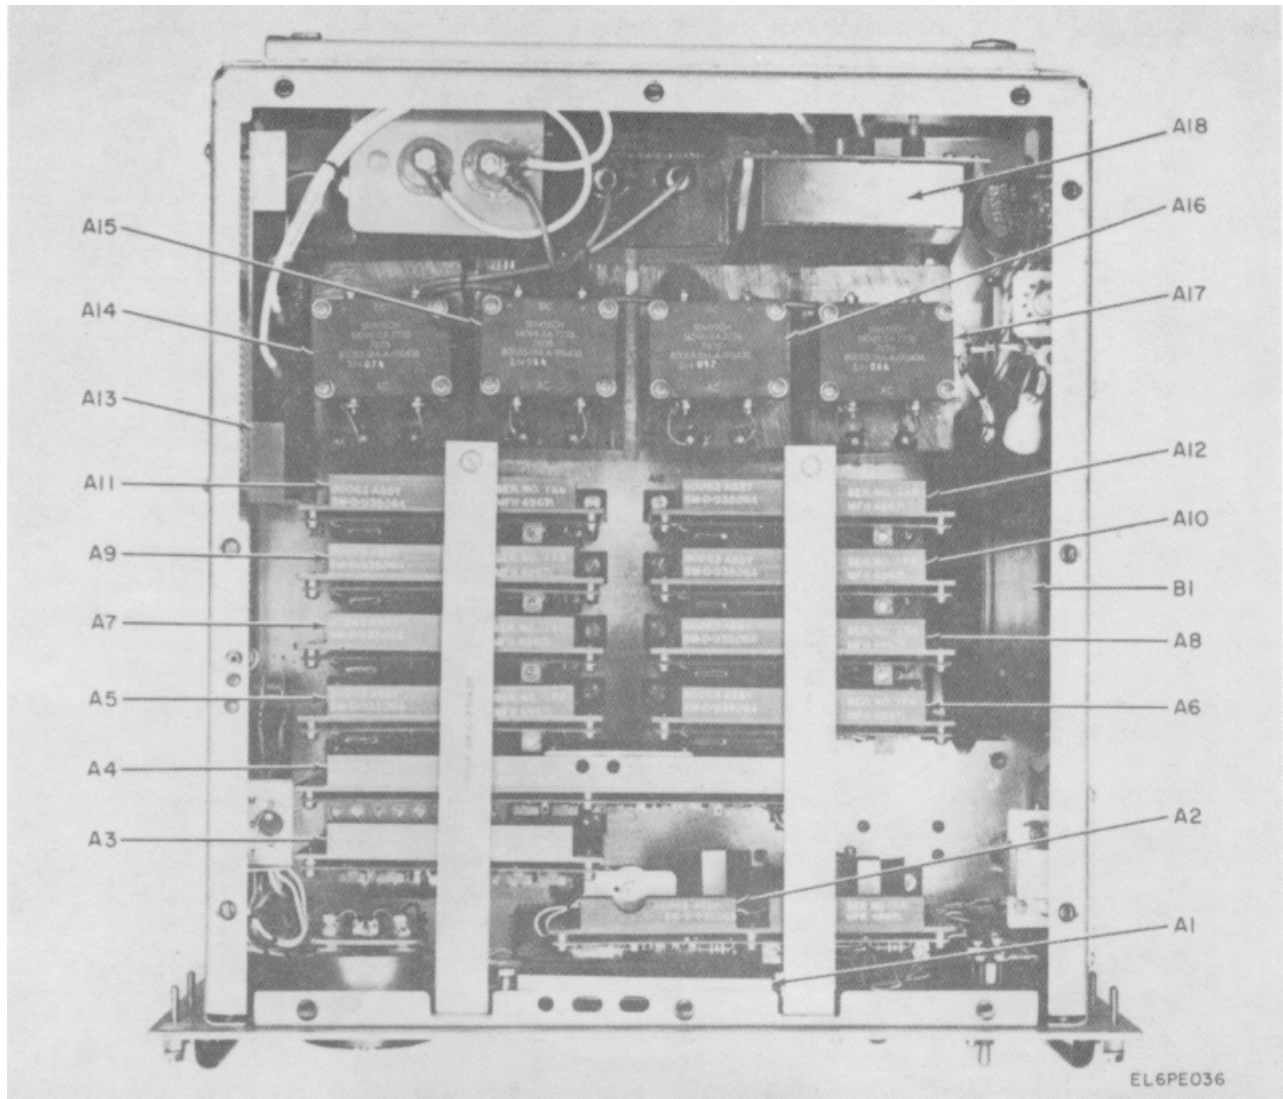
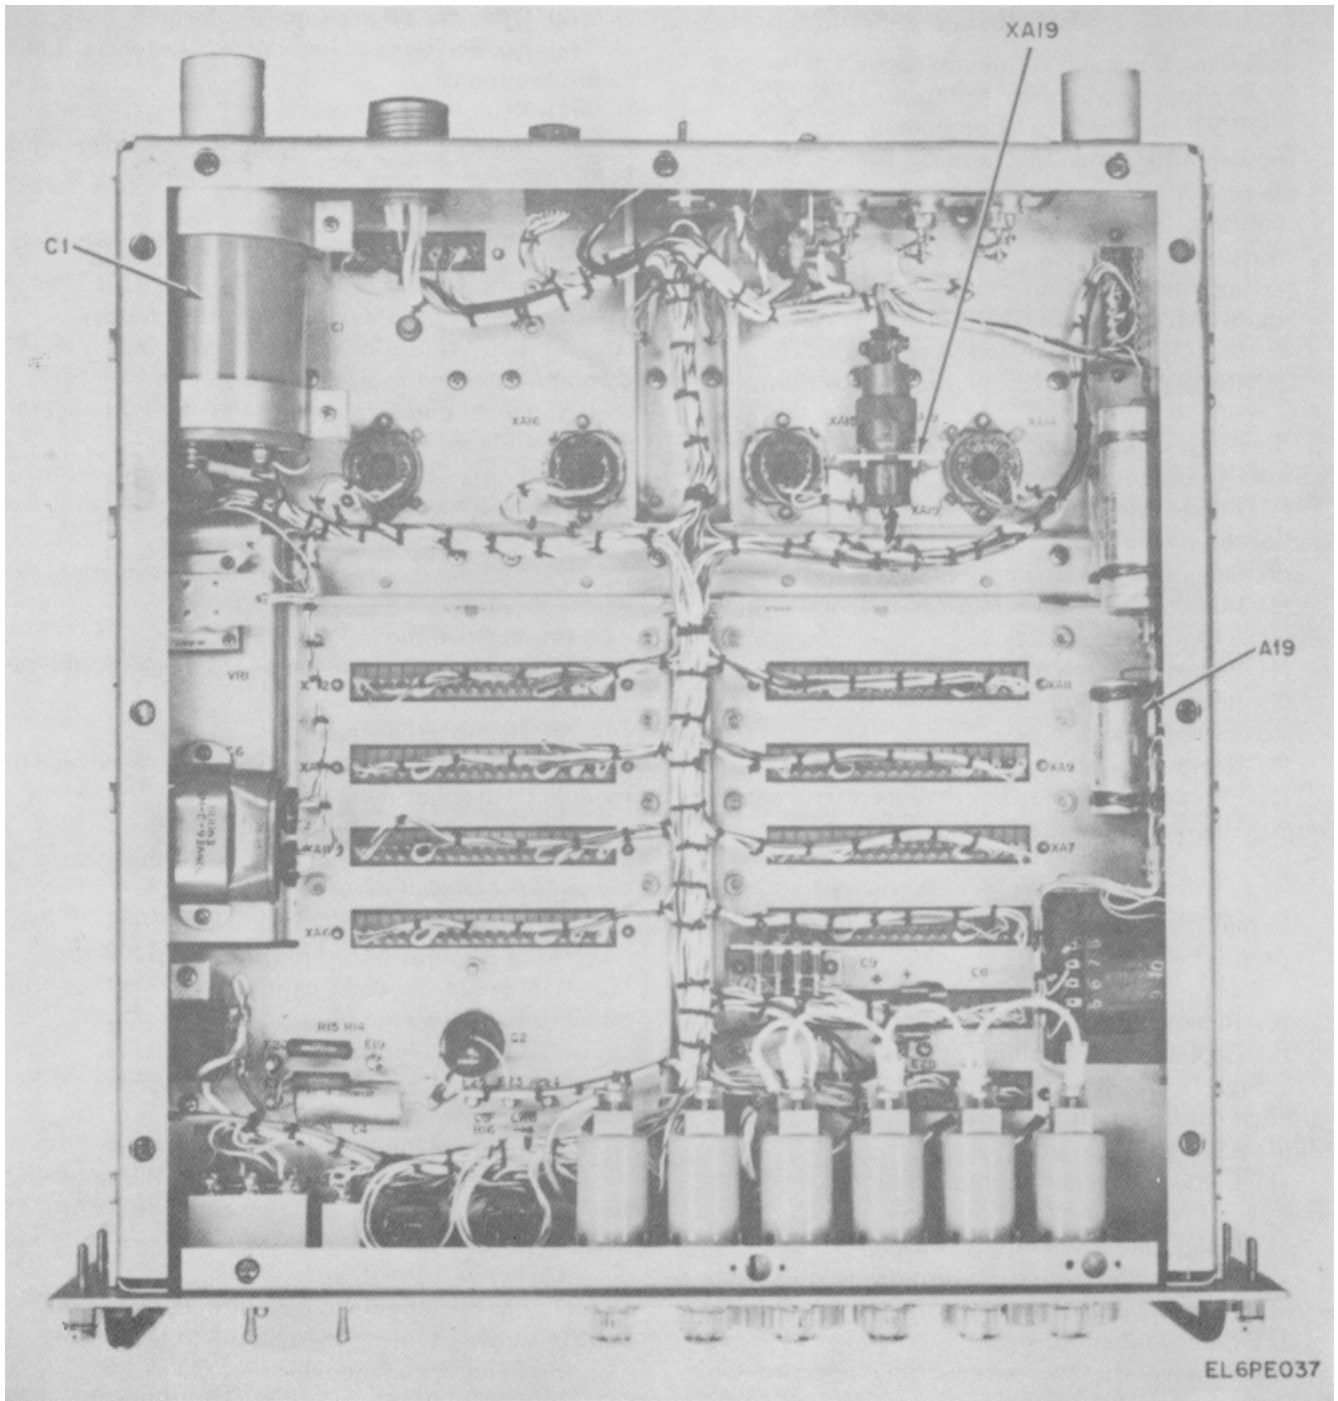

Figure 5-10. Power Supply Top View, Module Locations.
Figure 5-11. Power Supply Bottom View, Component Locations.
The following procedures contain instructions for the removal and replacement of modules and the blower. See figure 5-10 for the blower and all module locations except module A19 which may be located on figure 5-11.
a. Removal and Replacement of Control and Overload Module A1 (fig. 5-10).
- (1) Loosen the eight captive screws on the front panel of the power supply.
- (2) Open the power supply drawer.
- (3) Loosen the twelve 1/4-turn fasteners which secure the top cover.
- (4) Remove the top cover.
- (5) Remove the two screws from the right side module holding strap.
- (6) Remove the strap.
- (7) Loosen the two knurled captive screws securing the module to the front panel.
- (8) Remove the module from the chassis.
- (9) Replace the module by performing steps (1) through (8) above in reverse order.
b. Removal and Replacement of Low Voltage Module A2 (fig. 5-10).
- (5) Remove the two screws which secure the right side module holding strap.
- (7) Loosen the two captive screws which secure the module to the chassis.
c. Removal and Replacement of High Voltage Overload Module A3 (fig. 5-10).
- (5) Remove two screws from the left side module holding strap.
- (7) Loosen the two captive screws securing the module to the chassis.
d. Removal and Replacement of the Pulse Synthesizer Module A4 (fig. 5-10).
- (5) Remove the two screws from each of the two module holding straps.
- (6) Remove the straps.
e. Removal and Replacement of High Voltage Switching Modules A5 through A12 (fig. 5-10).
- (5) Remove the two screws from the applicable left side (A5, A7, A9, A11 or right side (A6, A8, A10, A12) module holding strap.
- (7) On the module to be removed, loosen the two captive screws securing the module to the chassis.
f. Removal and Replacement of High Voltage Module A-13 (fig. 5-10).
- (3) Loosen the twelve 1/4-turn fasteners which secure the top cover by turning each of them 1/4-turn counterclockwise.
- (5) Unscrew and disconnect the three high voltage connectors on the top edge of the module.
(6) Loosen the three captive screws on the outside of the chassis which secure the module to the left side.
(7) Remove the module from the chassis.
(8) Replace the module by performing steps (1) through (7) above in reverse order.
g. Removal and Replacement of High Voltage Transformer/Rectifier Modules A14, A15, A16 and A17 (fig. 5-10).